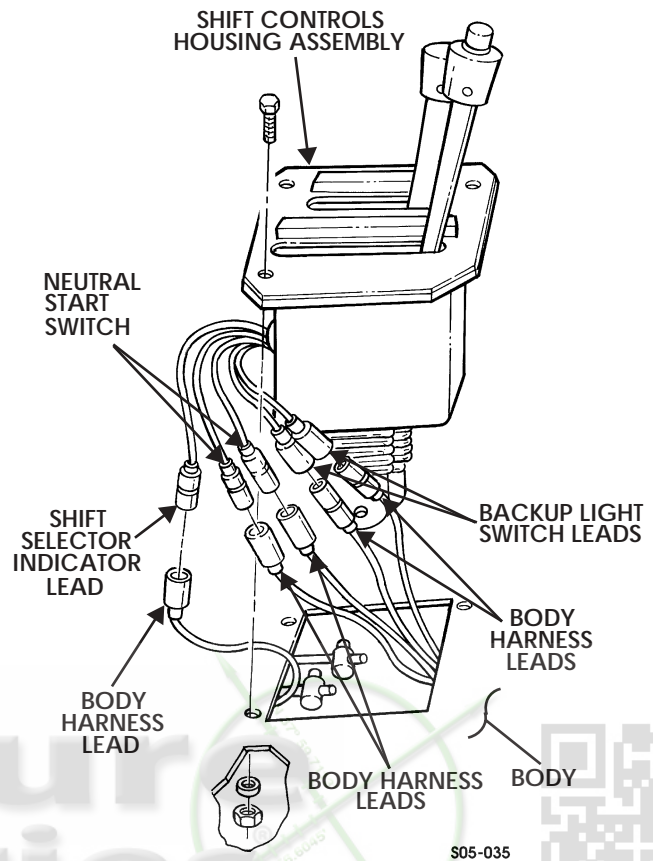

Figure 5-90: Shift Controls Housing Assembly
4. Remove four locknuts, washers, bolts, and shift controls housing assembly from body (Figure 5-90).
3. Position shift controls housing assembly in body, with transmission lever to the right, and install with four bolts, washers, and locknuts. Tighten locknuts to 6 lb-ft (8 N•m) (Figure 5-90).